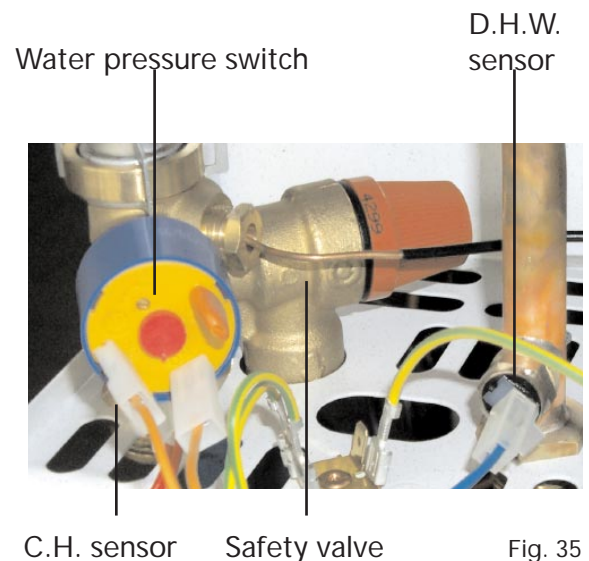

Fig. 35
### 7.07.1 D.H.W. temperature sensor or Central Heating Temperature Sensor (fig. 35)
- Identify the sensor from figure 35
### 7.07.2 Water Pressure Switch (fig. 35)
- Identify the switch from figure 35
### 7.07.3 Safety Valve (fig. 35)
- Identify valve from fig. 35